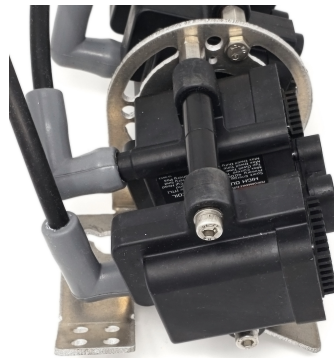

Fig 3
- 3: Slide the first pair of bolts through the 1st ignition coil as shown in Fig 3 (pay attention to post orientation)